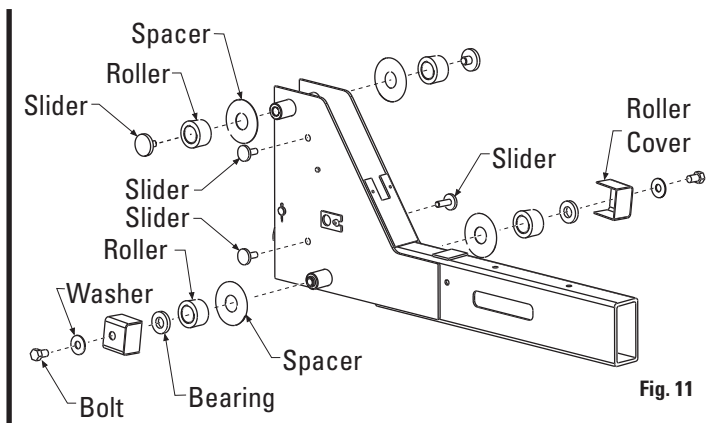

Fig. 11
- 7. **Front Yoke Roller Assembly:** Assemble yoke rollers and bearings for both front yokes, Fig 11.